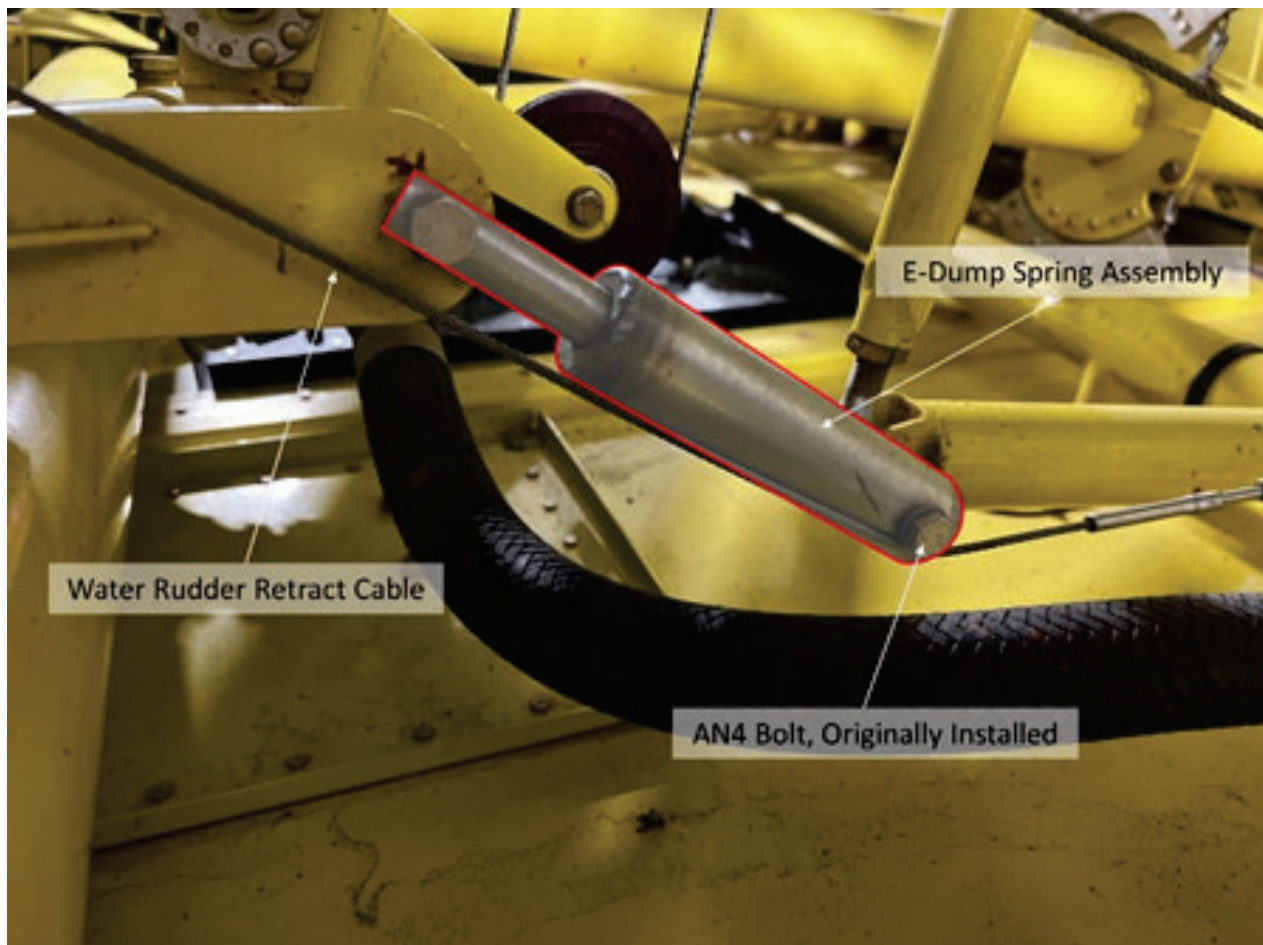

Figure 1 – Example of Interference
3. Replace the originally installed AN4 bolt and MS21044N4 nut at the aft end of the E-Dump Spring Assembly (Air Tractor P/N 71134-1) with AN24-36A clevis bolt and MS21083N4 nut and NAS1149F0463P washers as required. Do not overtighten, as doing so may restrict movement of the linkage. Refer to Figures 1 and 2. Cable pulleys and adjacent fuel line may be massaged slightly for additional clearance.